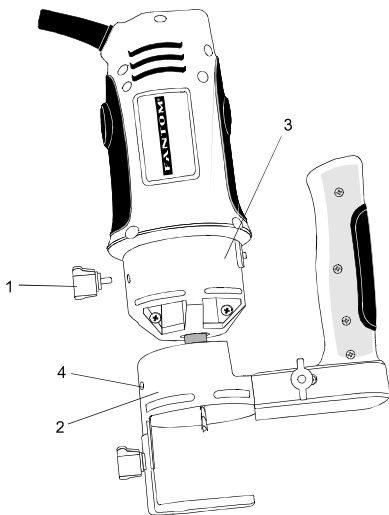

Fig. 10
1. Remove accessory locking knob (1) from the base of the Rotary Tool motor housing (see Fig. 10). Slide precision handle mounting bracket (2) onto the bottom of motor housing (3) until the mounting hole (4) lines up with the hole in the motor housing.